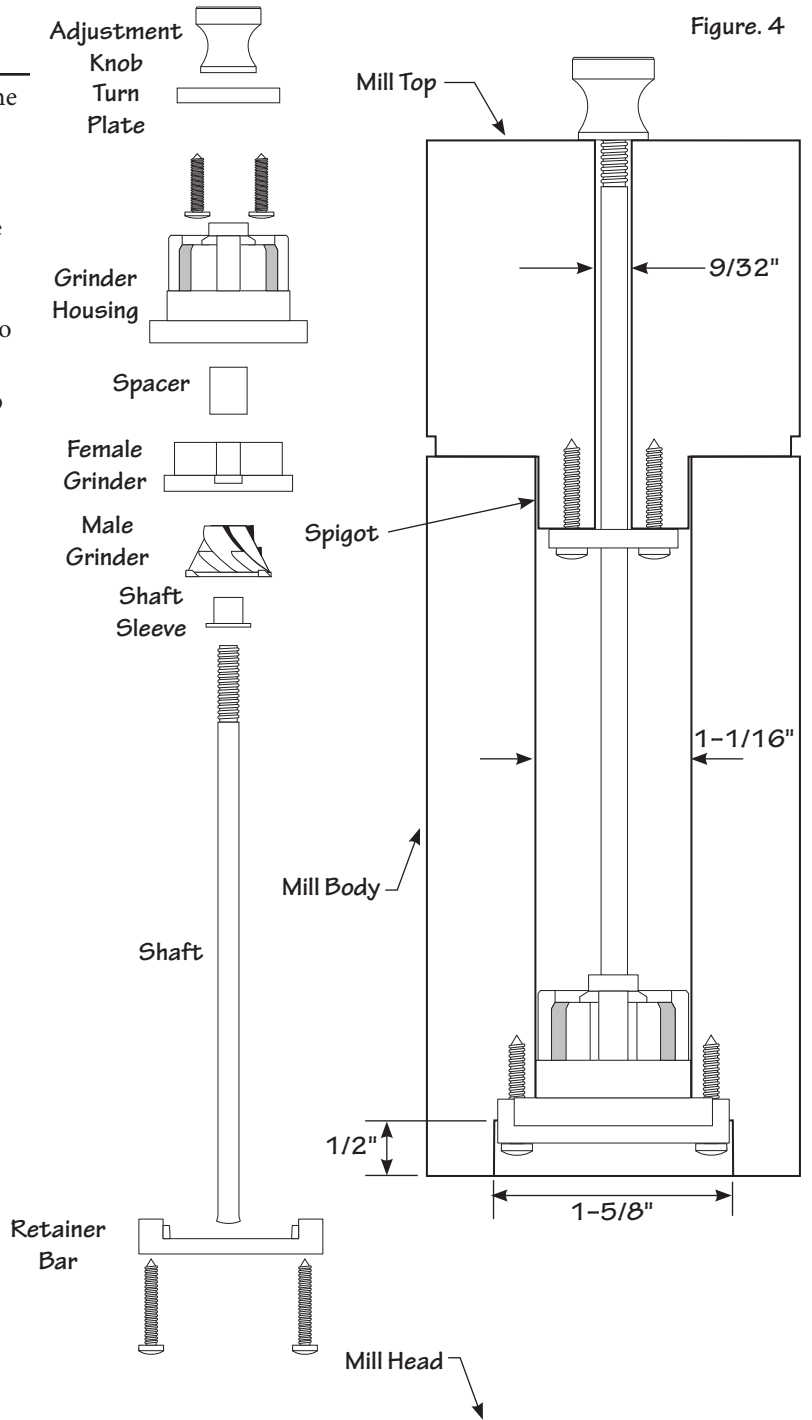

Figure. 4
5. Assemble the Salt Mill according to Figure 4.